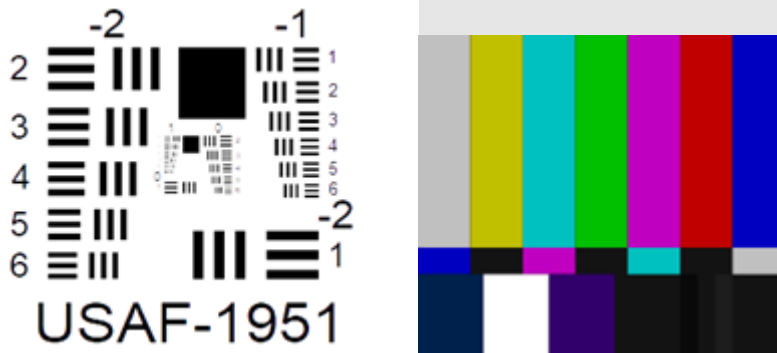

Figure 17 Aligning the endobody clamp with the camera
39. Rotate the endobody clockwise until the endobody clamp is aligned with the camera as shown in Figure 17.